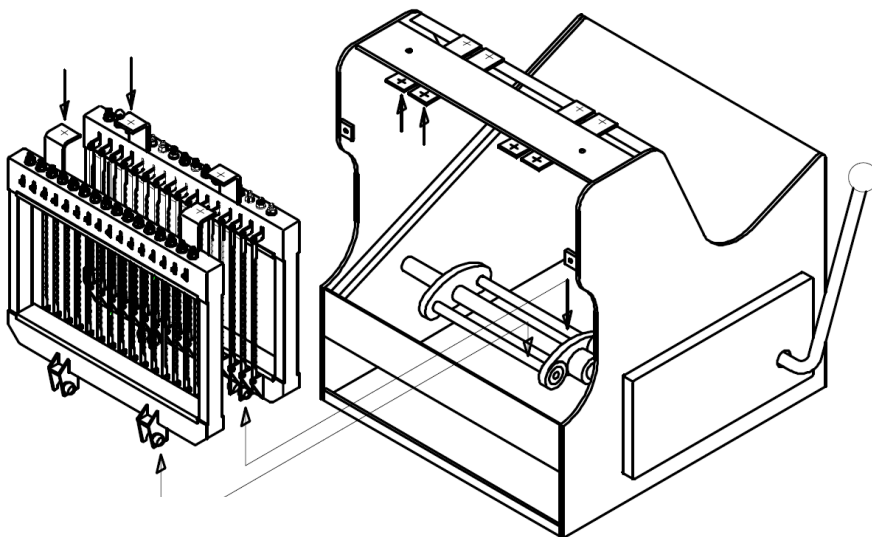

FIGURE 1.
1. To remove front knives frame for replacement of blades, it is necessary to take off the components of knives frame (see Figure 1).